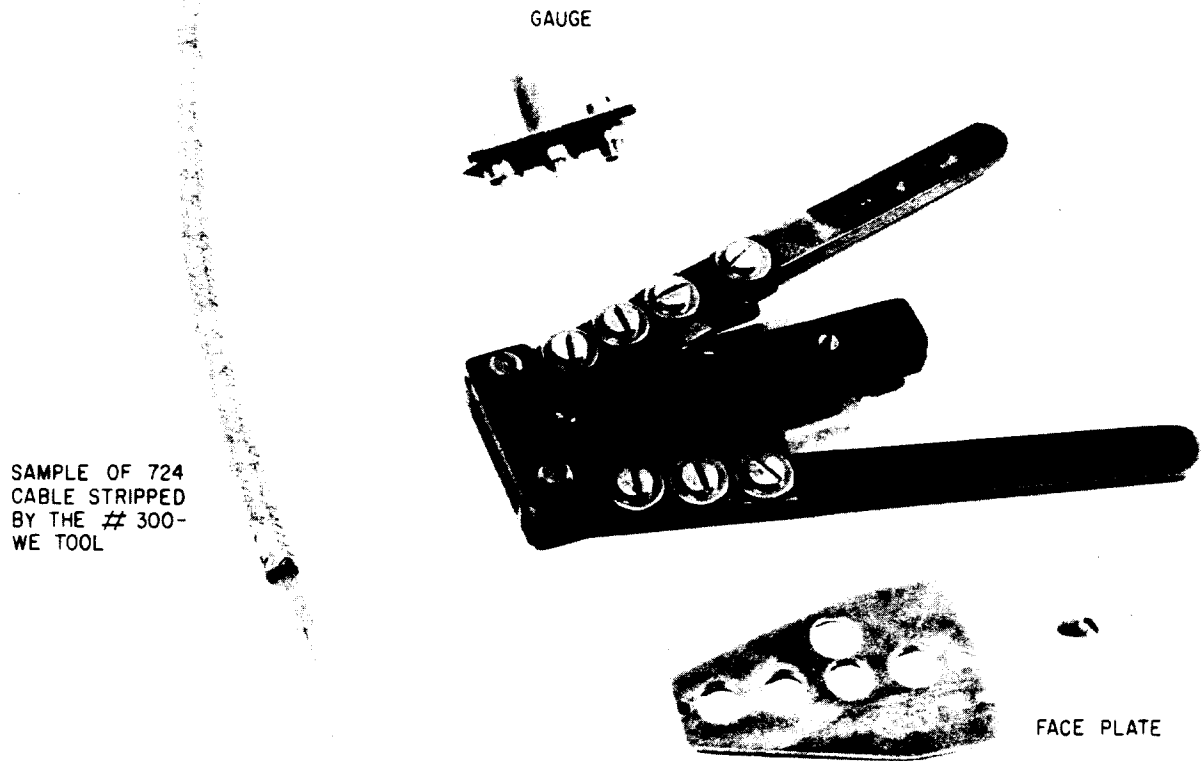

Fig. 1 — Method of Setting Blades
3.02 The blades are set for the proper cutting depth as follows (see Fig. 1):